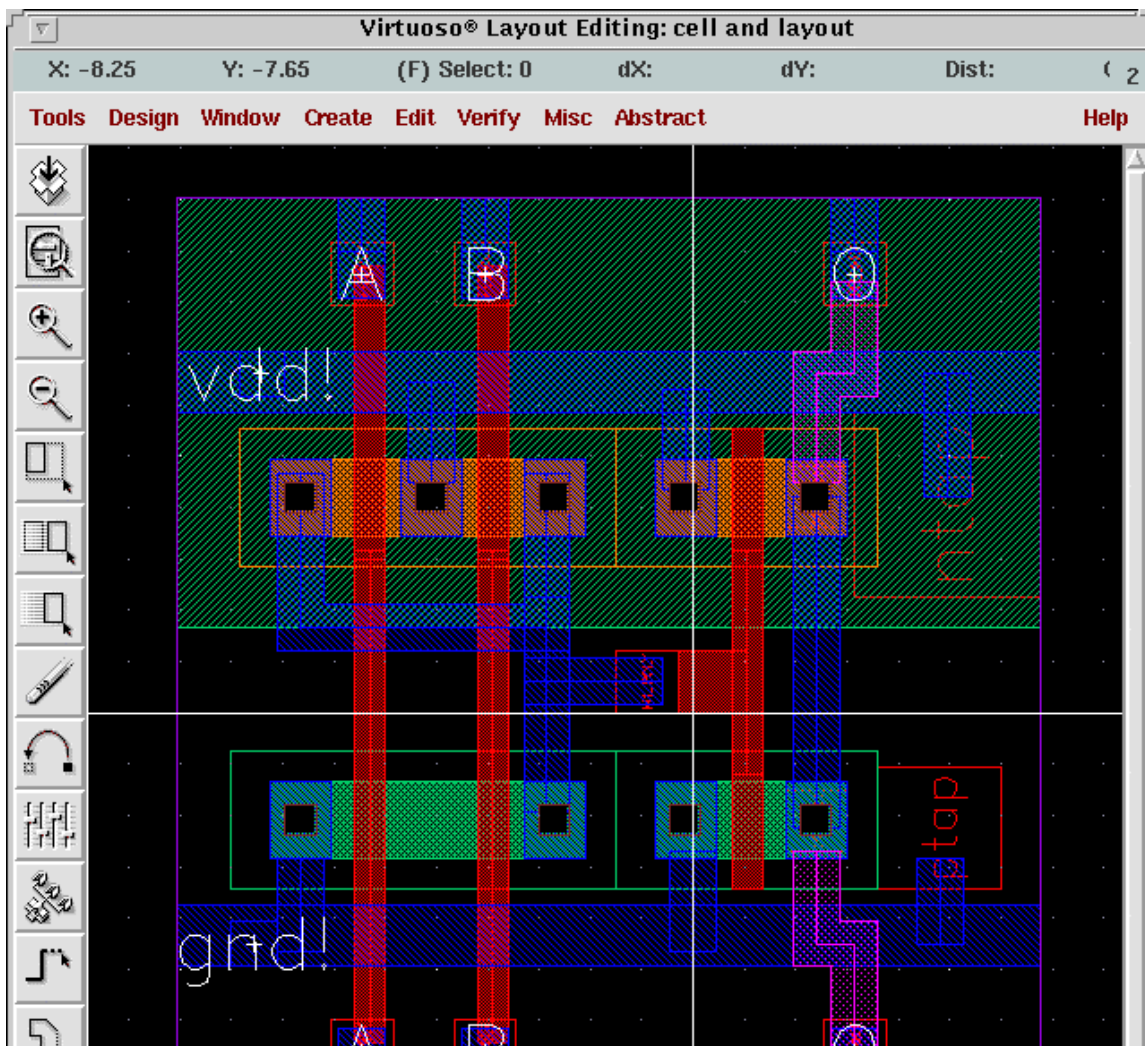
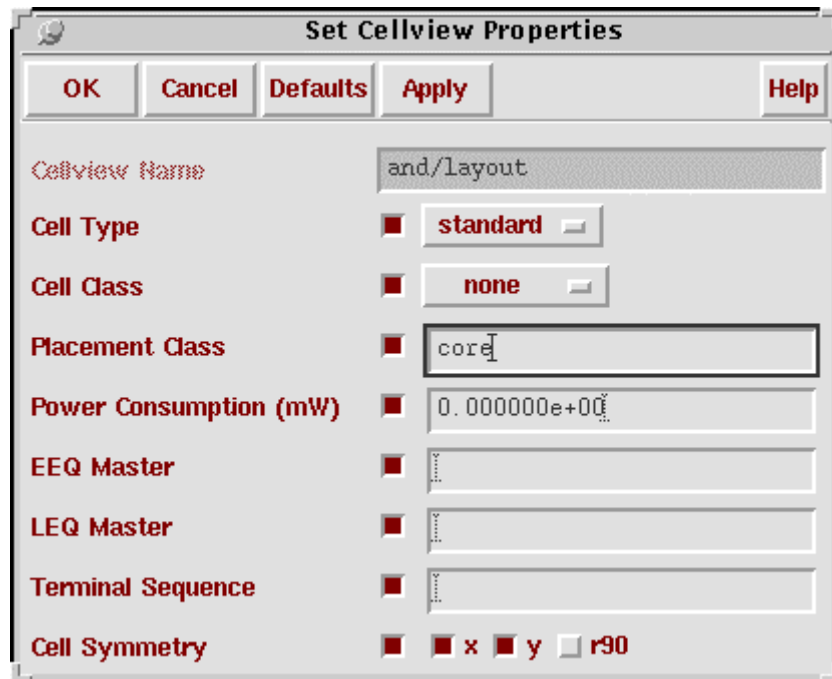

Fig 2: Layout view to generate Abstract
Fig 3: Set Cellview Properties
This brings up Fig 2 as follows.
Select **Abstract** -> **Set Cell Properties** from Fig2. This brings up a “Set Cellview Properties” form ( Fig 3). Make sure that:
- Make **Placement Class** *core* as shown in Fig 3.
- In the **Cell Symmetry** enable **x** and **y** as shown in Fig 3.